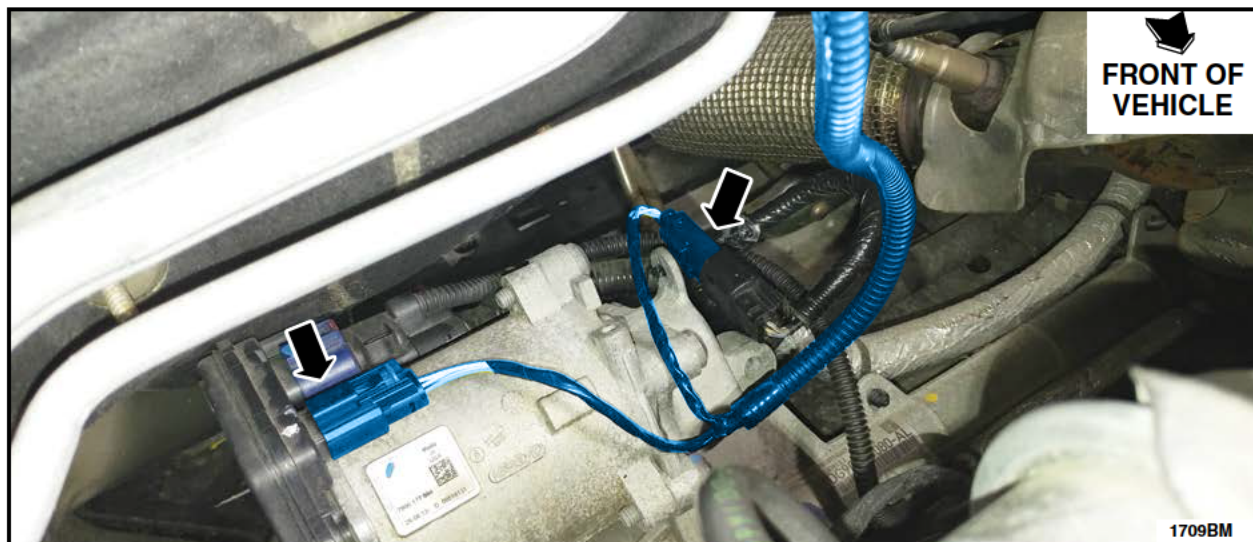

FIGURE D2
3. Disconnect the EPAS electrical connector and connect the coolant stand-pipe wiring harness to the EPAS module and the EPAS electrical connector. See Figure D2.